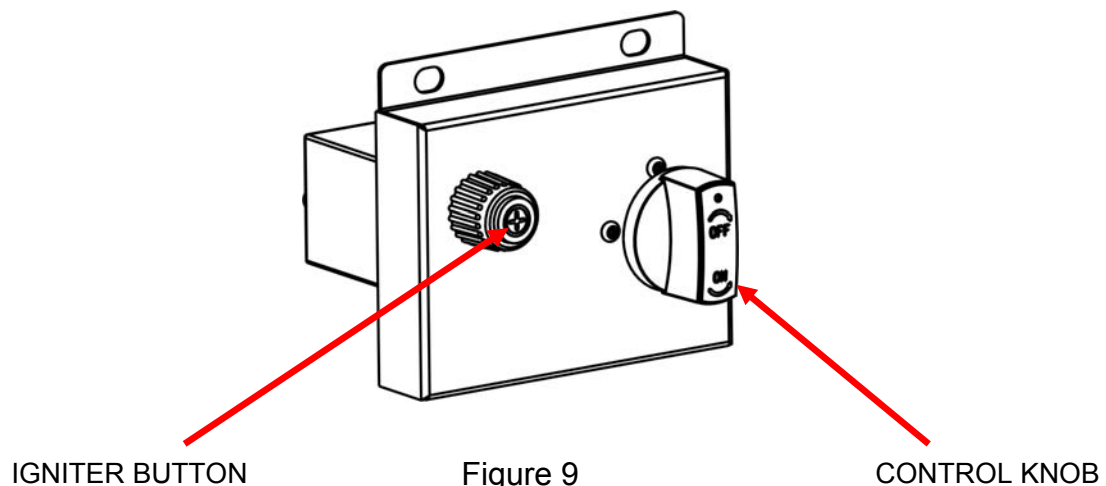

Figure 9
1. Open the tank drawer and find the control panel on the left. Make sure the control knob is in the "OFF" position. See Figure 9. Open the tank valve all the way.